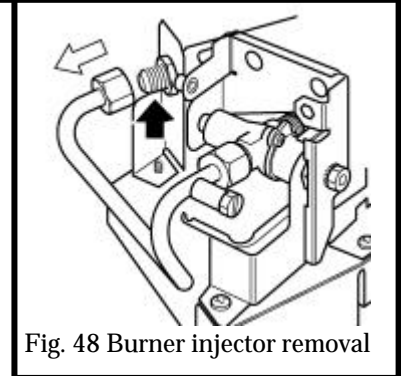

Fig. 48 Burner injector removal
13.10 To remove the main burner injector (see figure 48)